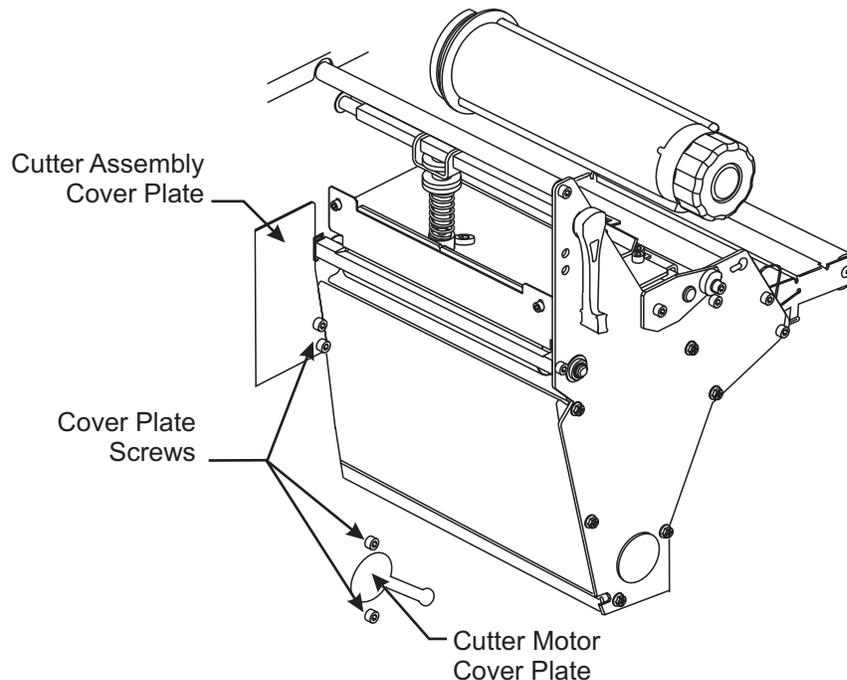

Figure 6-33. Cover Plate Locations
1. Refer to Figure 6-33. Open the media access door. Remove the cutter assembly cover plate.